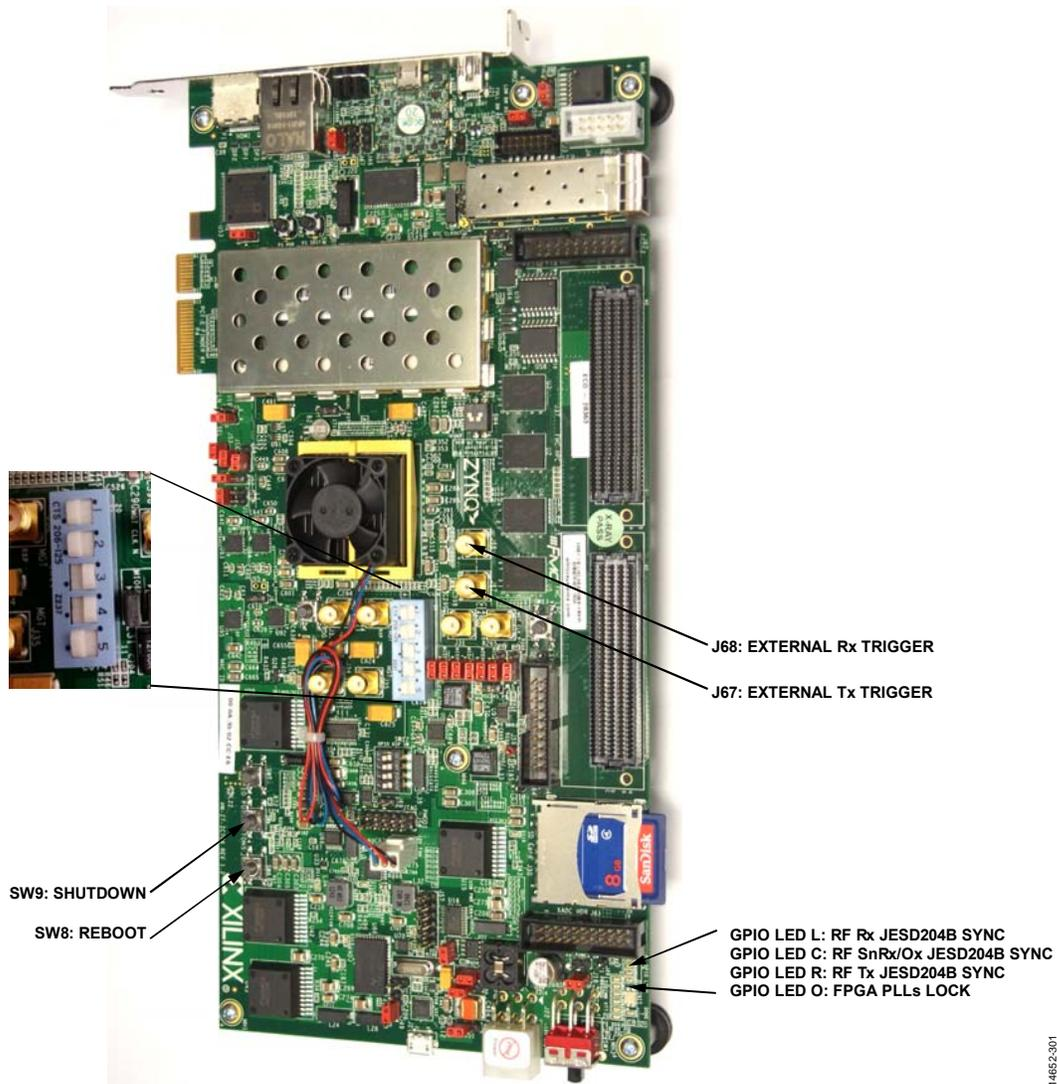

Figure 174. Xilinx EK-Z7-ZC706 ZYNQ Motherboard with Jumper Settings and Switch Position Configured to Work with the Device Evaluation Board
The ZYNQ platform setup (see Figure 174) requires the following steps:
1. Place all jumpers in the positions shown in Figure 174.
2. Place the SW11 toggle switches in the positions as shown in Figure 174 (Toggle Switch 1, Toggle Switch 2, and Toggle Switch 5 = Position A).
2. Ensure that all jumpers on the ZYNQ motherboard, as well as the SW11 position, match the settings shown in Figure 174 (1, 2, 5 = Position A).
The ZYNQ evaluation system uses a Linux operating system. It takes approximately 30 seconds before the system is ready for operation and can accept commands from PC software. Boot status can be observed on the ZYNQ GPIO LEDs (L, C, R, O) (see Figure 174 for LED locations). Take the following steps for proper operating sequence:
4. Connect the reference clock signal (30.72 MHz continuous wave (CW) tone, 5 dBm maximum) to J401.
7. Power off must be executed using the TES or the user must power down the ZYNQ system using the SW9 push button (see Figure 174) before the user powers down the evaluation system by switching SW1 off.